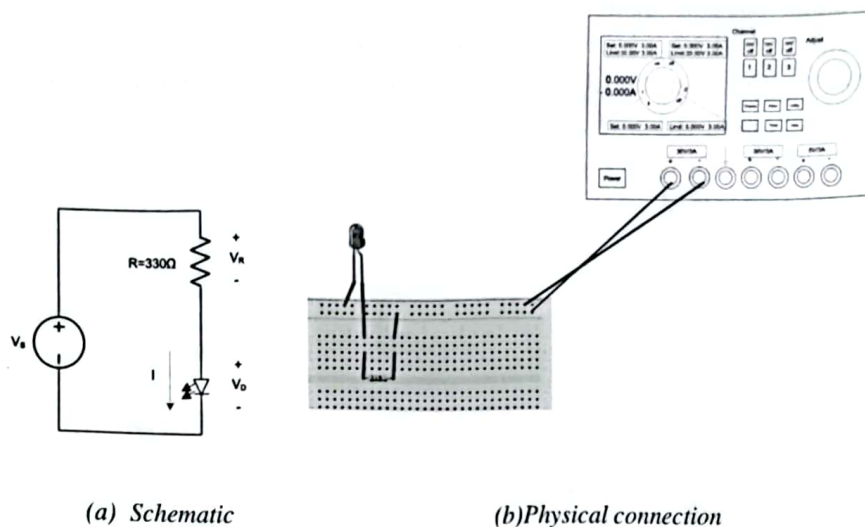

Figure 8: Illuminating an LED safely using a current-limiting resistor.
1. Build the circuit show in Figure 8(a), and (b) is a physical connection, pay attention to the connect of the cables of DC power supply. The red one connect with "+" terminals, the black one connect with "-" terminal. Also pay attention to the direction of the anode end of the LED.
Table 2: Measurement data and calculate data for circuit in Figure 8
Question 4: In the circuit schematic of Figure 8(a), V_S is the voltage provided by the voltage source (power supply) in the lab. The power supply controls the voltage across the resistor/diode combination, forcing it to take on the value of V_S . Looking at